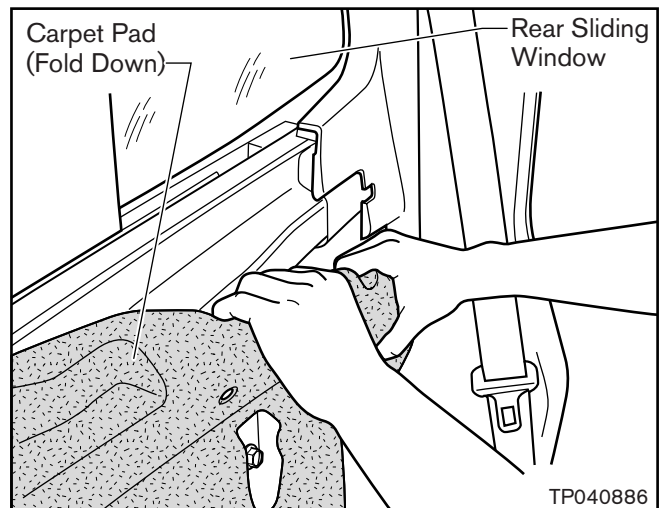

Figure 3
2. Fold down the Carpet Pad (see Figure 3).